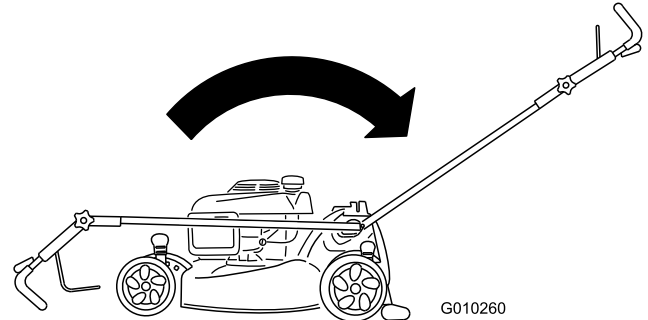

Figure 50
2. Move the handle to the upright position (Figure 50).